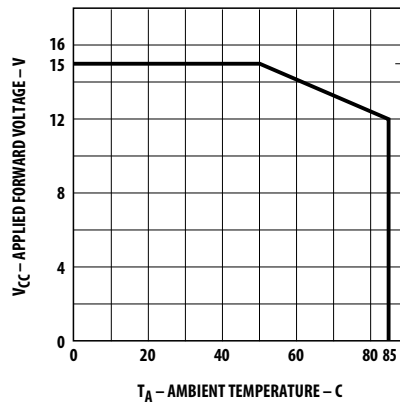

Figure 4. Maximum allowed applied forward voltage vs. ambient temperature  $R\theta_{JA} = 175^{\circ}\text{C}/\text{W}$ . 12 volt devices.
3. Derate from TA = 50°C at 0.086 V/°C, see Figure 4.